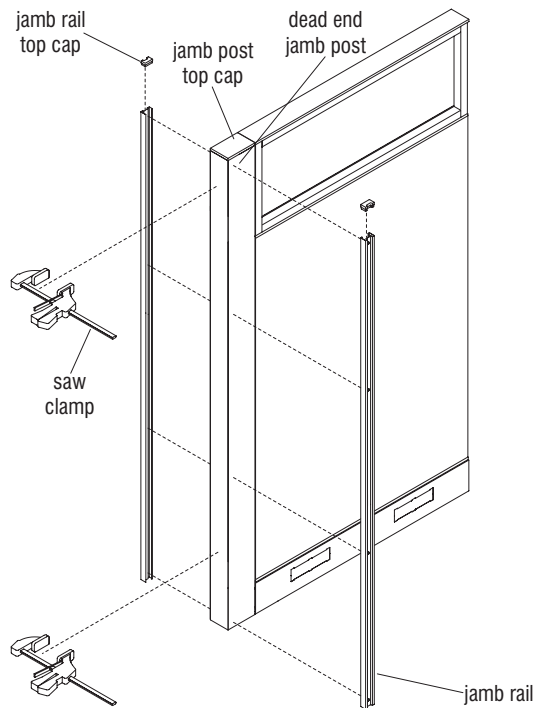

Figure 22
2. Take two jamb rails in hand and install a jamb rail top cap to each. Place both jamb rails with cap against the dead end jamb post where the rolling doors will close to them. Use two clamps to position the jamb rail straight and flush with the front edges as illustrated. The jamb rail top caps should both be flush at the top with the jamb post top cap. (Figure 22).